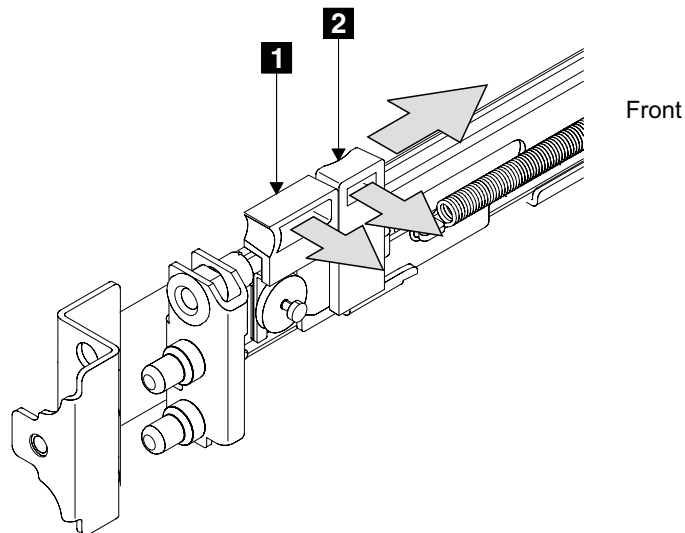

Figure 113. Opening the front latch-lock carrier assembly
5. Gently push the latch lock **2** (Figure 113) away from the rail as you move the latch lever **1** towards the far end of the rail. The latch-lock carrier assembly slides against the spring tension.